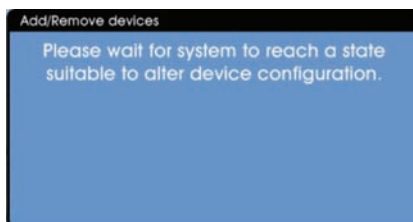

Figure 148: “Add/Remove devices” dialog box — instrument preparing for changes
3. The “Add/Remove devices” dialog box will now appear. It will initially ask you to wait whilst the instrument prepares for the device configuration change (see Figure 148).